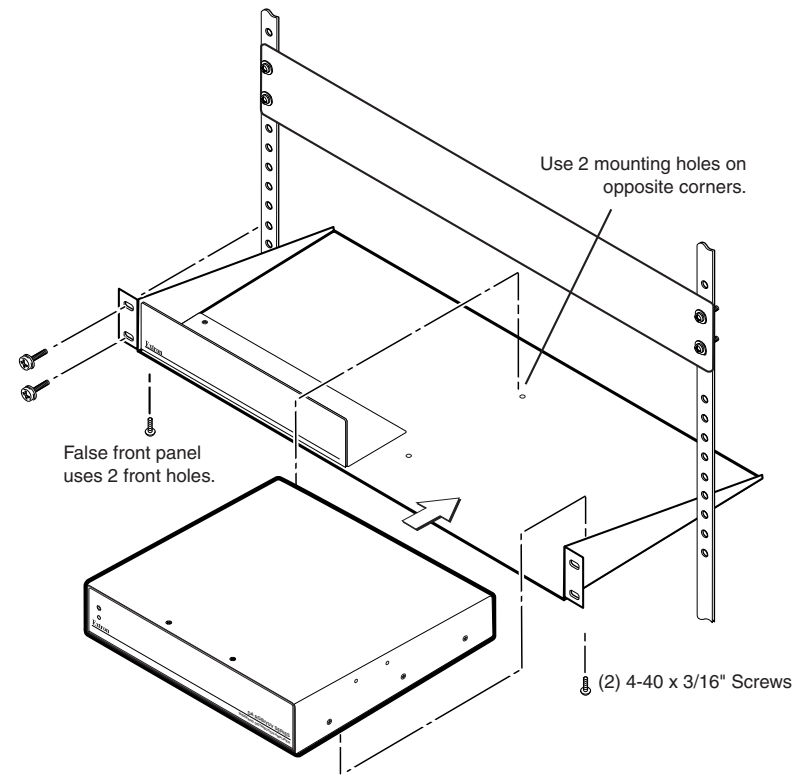

Figure 2-1 — Rack mounting a DA2 RGBHV
2. Place the DA on one half of an optional RSU 129 1U (one unit high, 19" wide) rack shelf (part #60-190-01). Align the front of the DA with the front of the shelf, and align the threaded holes on the bottom of the DA with the holes in the rack shelf (figure 2-1).
4. Fasten the false front panel (provided with the rack shelf) to the unoccupied side of the rack (figure 2-1), or install a second half-rack-width device in that side by repeating steps 1 through 3.